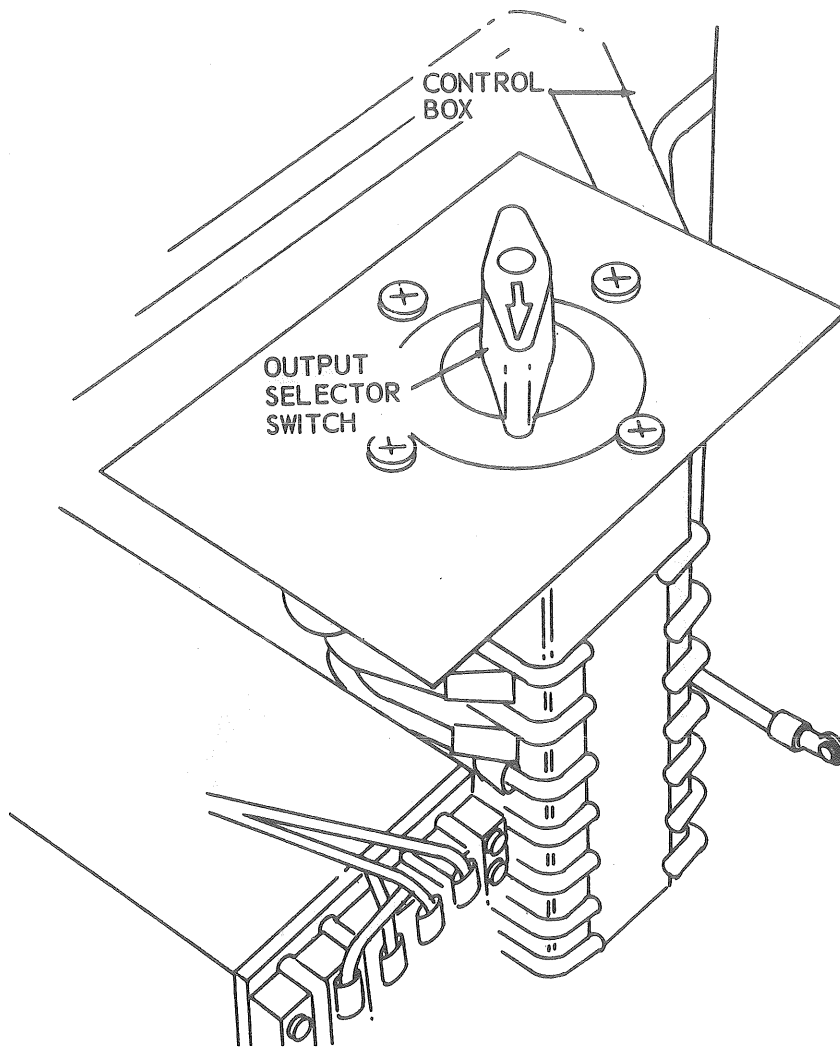

Figure 3. Voltage OUTPUT SELECTOR switch.
- 5. Assure VOLTAGE/PHASE switch (OUTPUT SELECTOR switch) is set to the desired voltage/phase position. (Refer to fig 3, and TM 5-6115-332-14, para 2-1b(13).)